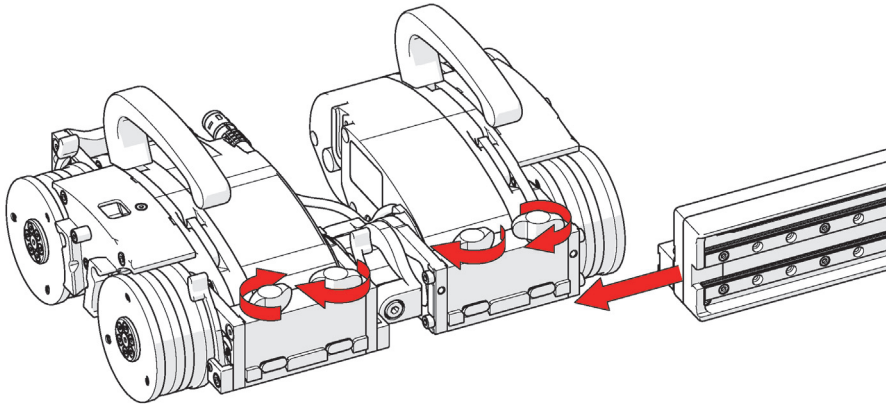

Figure 2-37 Slide onto one swivel mount
1. Loosen all four black wing knobs on both modules, and then slide the raster arm's mounting rail onto the dovetail jaws of one of the modules (see Figure 2-37 on page 80).